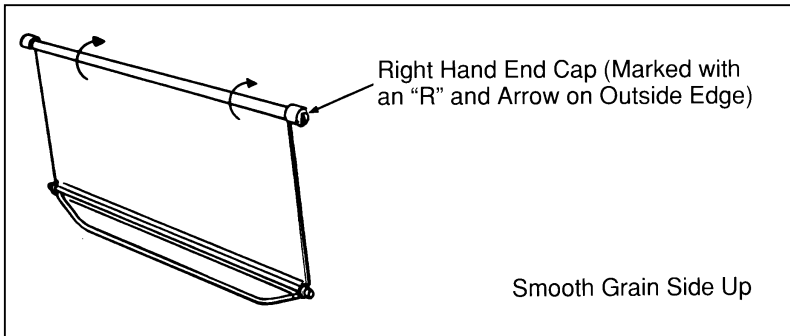

Figure 1
2. Extend the shade fully. Make sure the smooth grain side is facing you (see Figure 1).
3. Wrap the vinyl around the roller tube two times in the direction shown in Figure 1.